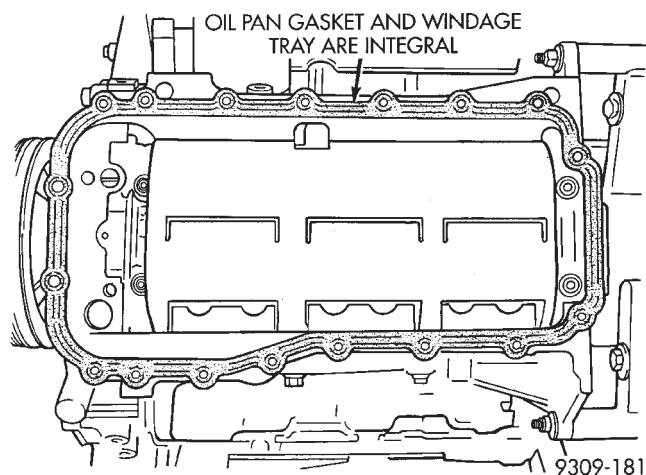

Fig. 4 Windage Tray/Oil Pan Gasket
- (5) Remove the windage tray/oil pan gasket (Fig. 4).
The windage tray and oil pan gaskets are integral (Fig. 4). The silicone rubber gaskets are bonded to both sides of the windage tray. This assembly is reusable provided it is not damaged upon removal.
- (2) Install the windage tray/oil pan gasket (Fig. 4).